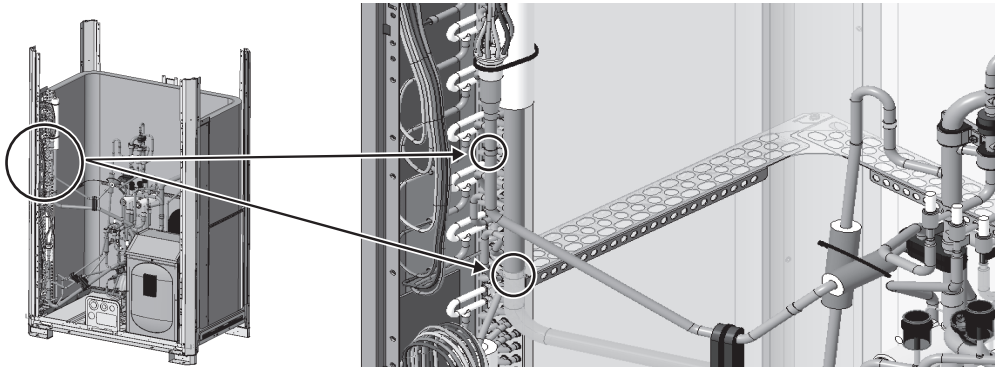
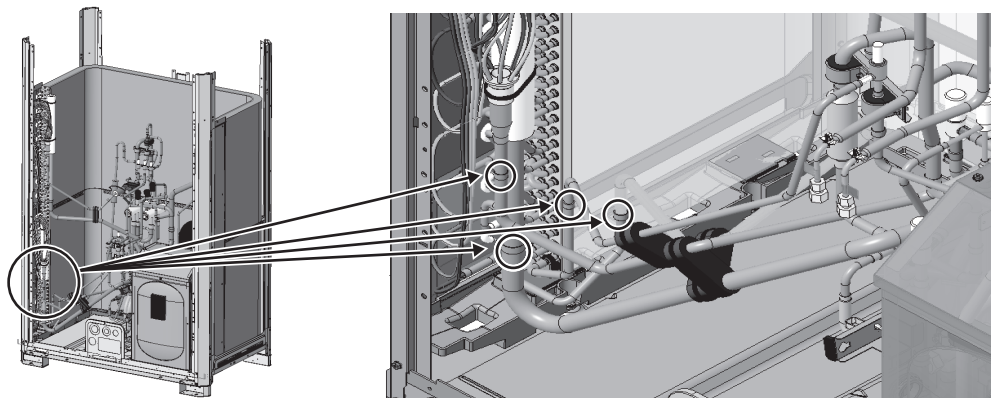

Fig. 67 Brazing point of the upper heat exchanger piping
Fig. 68 Brazing point of the lower heat exchanger piping
(1) When removing the heat exchanger, use the recommended wet felt to avoid burning the heat exchanger and pipe cover, etc. Remove the brazed part. (Six areas to remove brazing: Fig. 67 and Fig. 68)